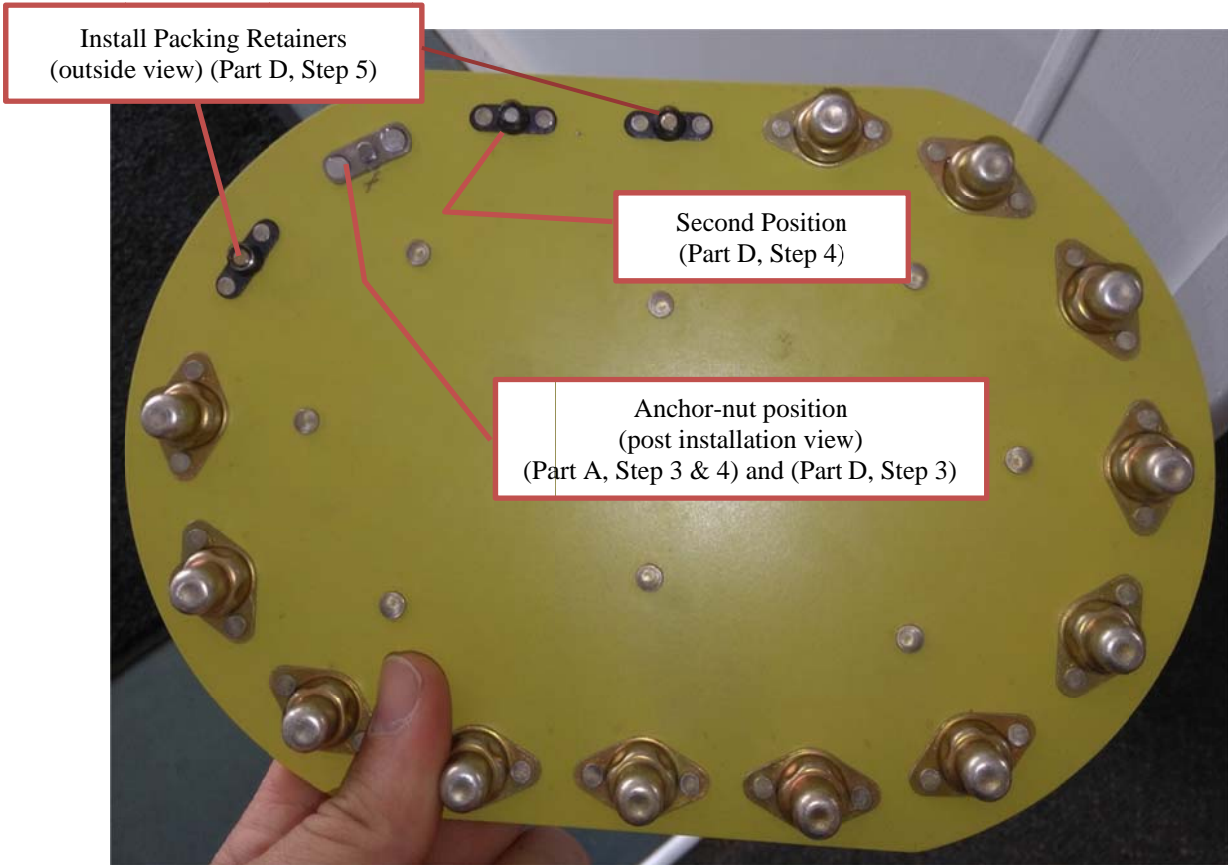

Figure 2 Inspection Panel Assembly (After modification)
- 3) On the Inspection Panel Assembly P/N 11-20391, find the position of the anchor-nut to be replaced, and drill out the related rivets using a N^o. 40 Drill (See Figure 2) for removal of existing anchor-nut.
- 9) Identify the position of the unchanged anchor-nut (See Figure 2, Second Position) on the panel exterior.
- 5) Install the existing screws and supplied Packing Retainers P/N NAS1523AA08R in remaining 2 positions on Inspection Panel Assembly (Refer to Figure 2).